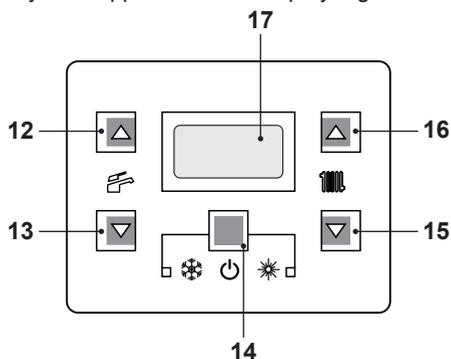

Fig. 2.7
- Press the key 14 for 2 seconds until the symbol appears on the display Fig. 2.7.
The output temperature of c.h. water can be adjusted by acting on keys 15 (reduce) and 16 (increase) (Fig. 2.7) from a minimum of about 25°C to a maximum of about 85°C. Press one of the two keys once to display the "set" value. Press again to access the modification.
In this case the boiler must be set by a qualified installer (see "Setting the K coefficient of the external temperature probe" to page 60). However, if the ambient temperature is not comfortable, the flow temperature of the heating plant can be increased or reduced by $\pm 15^{\circ}\text{C}$ by acting on keys 15 (reduce) and 16 (increase) (Fig. 2.7).
The temperature of the d.h.w. can be adjusted by acting on keys 12 (increase) and 13 (reduce) (Fig. 2.7) from a minimum of about 35°C to a maximum of about 60°C. Press one of the two keys once to display the "set" value. Press again to access the modification.